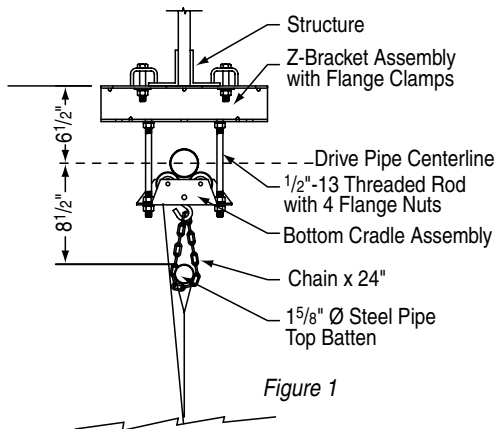

Figure 1
- ① Verify overall height and width with shop drawing to determine possible discrepancies.
- ② Attach winch support angles to winch plate and install winch per location shown on shop drawing.
- ③ Install drive pipe support assembly angle per location shown on shop drawing.
- ④ Attach drive pipe support assembly to angle with threaded rod. Adjust assembly vertically to proper height (See Fig. 1).
- There are two basic vertical adjustments to this divider. One is the threaded rods attaching the drive pipe support assemblies to the drive pipe support angles. The other is the chain from the drive pipe support assembly to the top of the curtain (see Fig. 1).